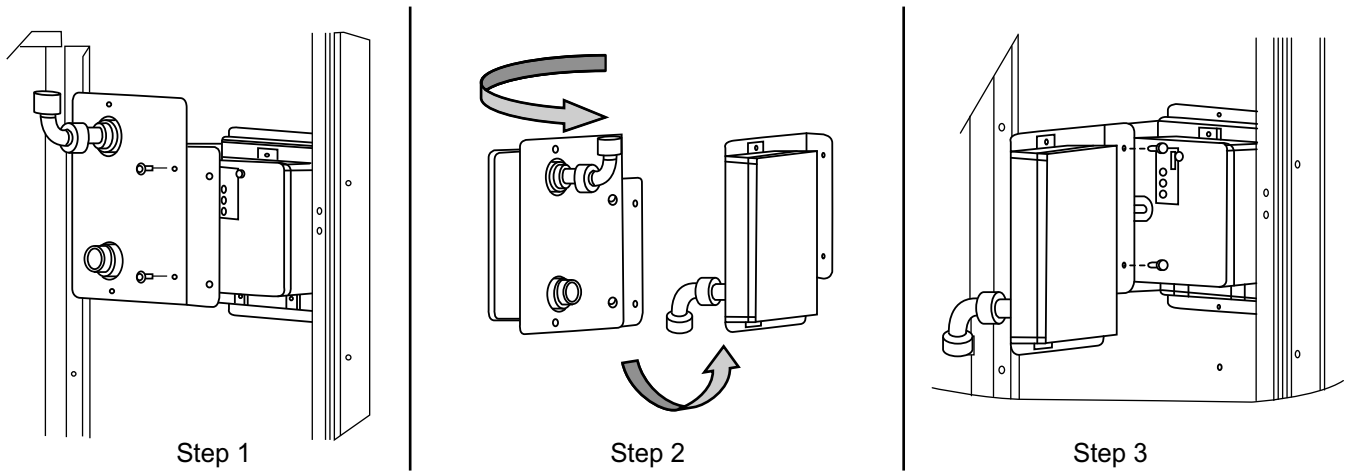

Fig. 76 - Completing Installation of Return Air Smoke Sensor
1. Unscrew the two screws holding the Return Air Smoke Detector assembly. See Fig. 76, Step 1. Save the screws.
2. Turn the assembly 90 and then rotate end to end. Make sure that the elbow fitting is pointing down. See Fig. 76, Step 2.
3. Screw the sensor and detector plate into its operating position using screws from Step 1. See Fig. 76, Step 3.